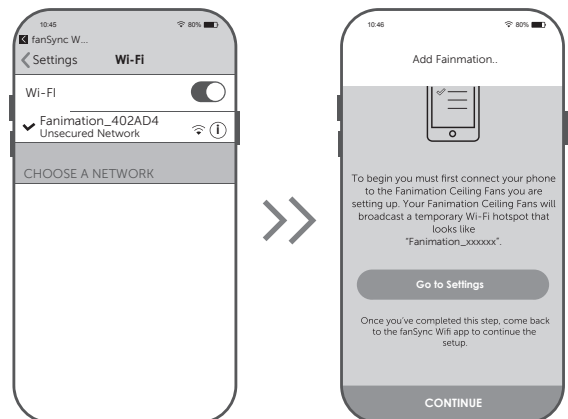

Figure 6
- ☐ 6. Secure the light shade assembly to the light plate/LED assembly by twisting in a clockwise direction. Do not over-tighten. (Figure 6)
- ☐ 6. In the WiFi settings on your smart device, select the Fanimation_XXXXXX device and return to the fanSync WiFi APP and press "CONTINUE". (Figure 6)